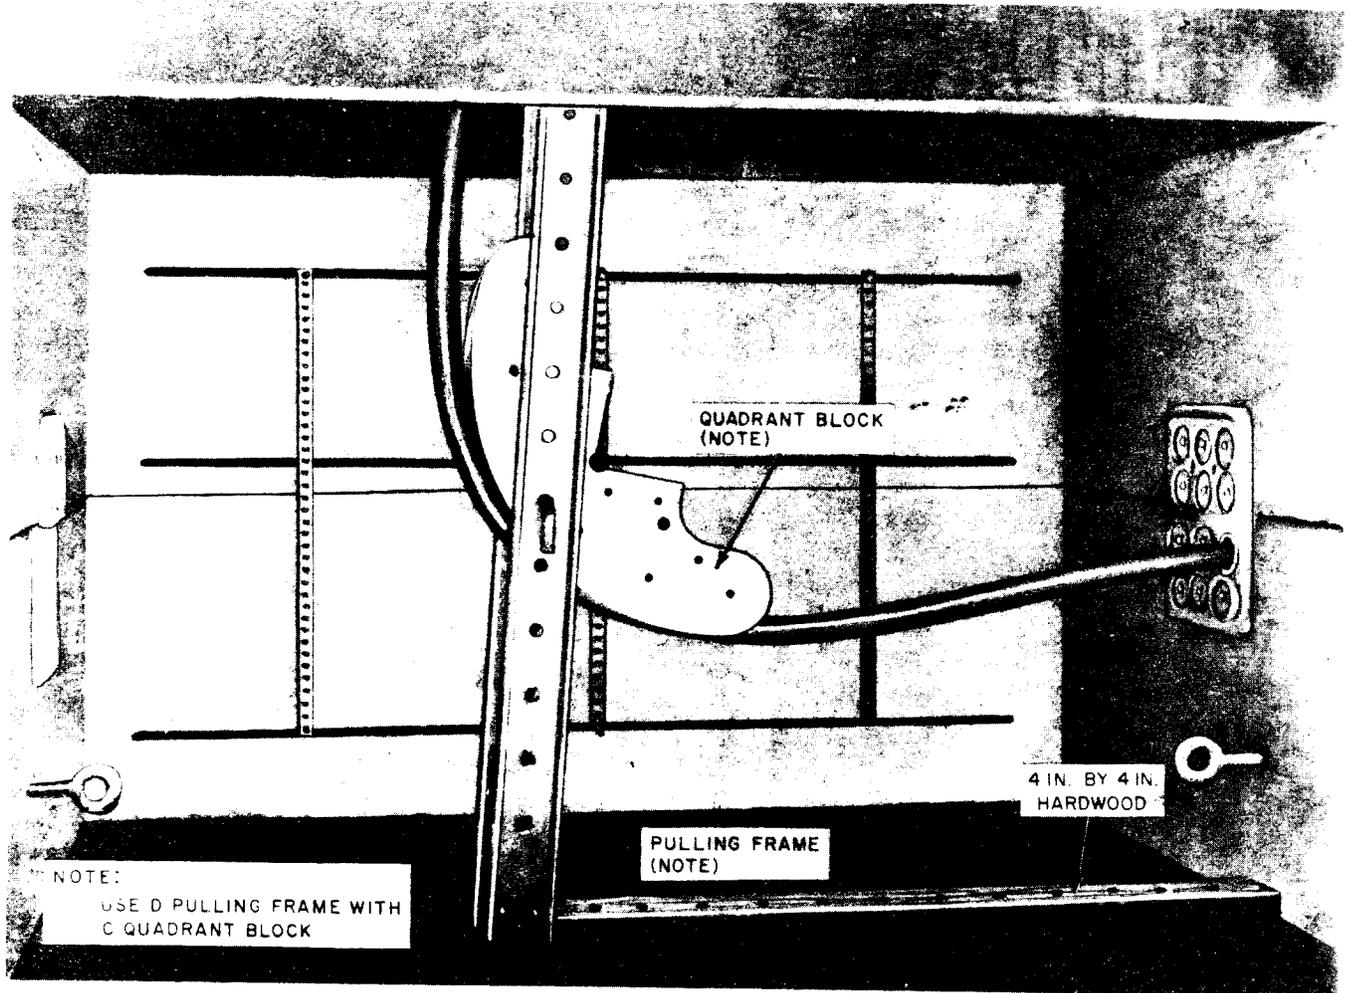

Fig. 2—Pulling Arrangement Using Pulling Frame and Quadrant Block
3.02 The C quadrant block and the C or M and T cable sheaves are used with the D pulling frame. A typical pulling arrangement is shown in Fig. 2 and 3.